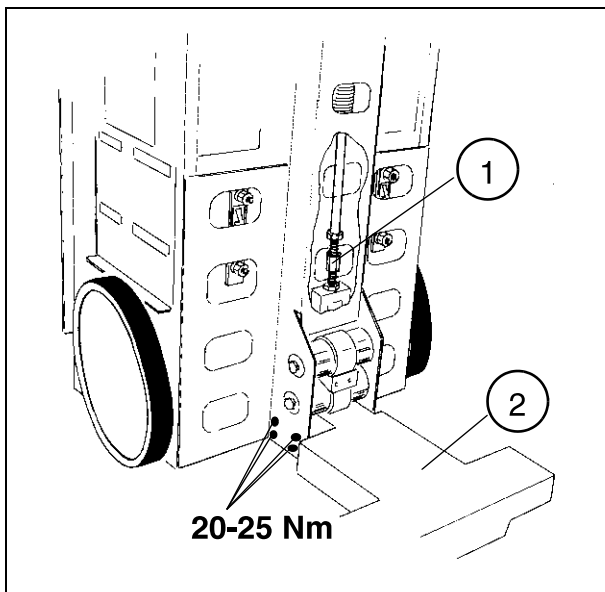

Fig. 13:
- Check the lock nuts on the adjustment screw (Fig. 13 / p. 35).
- Check the base mounting in the chassis (Fig. 13 / p. 35).